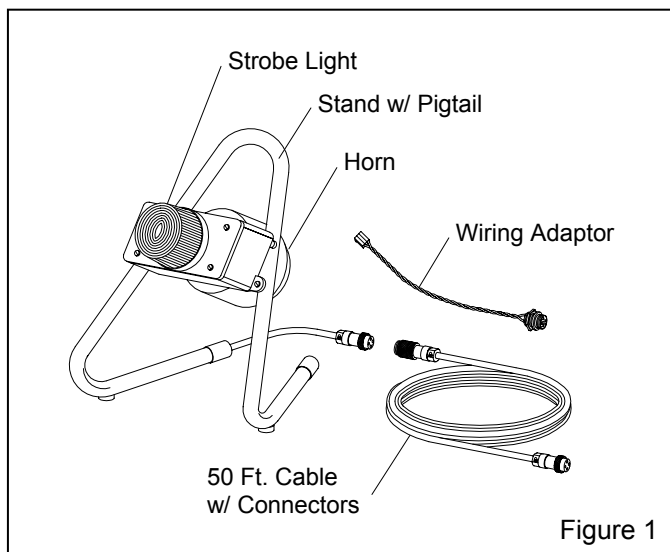

Figure 1
1.4.1 The primary components of the remote alarm are shown in Figure 1. The alarm package includes the alarm case with strobe light and horn, stand, 50-ft. cable with connectors, and a wiring adaptor with connectors.